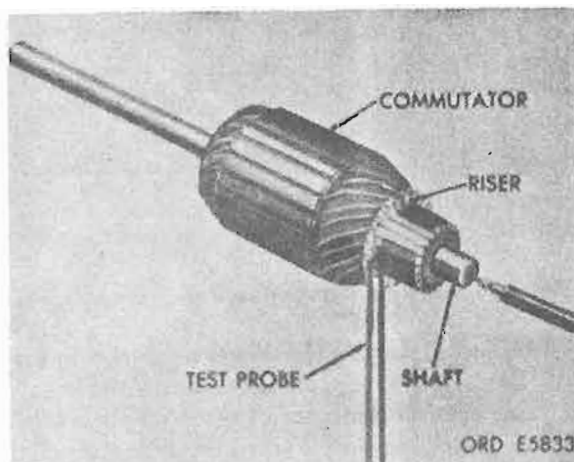

Figure 7-14. Testing armature for grounds.
(1) Inspect armature to make sure all coils are pressed into core slots and staked and soldered securely to commutator risers. Restake and solder as necessary. Inspect armature core for excessive scoring and loose windings. Discard armature if either condition is found.
(2) Check diameter of shaft at the three bearing points and discard if worn beyond the limits shown in table 7-2.
(3) Test armature for grounds with continuity tester as shown in figure 7-14. Touch probe to any commutator riser segment. Do not touch bearing surface or commutator surface where brushes ride as arcing will mar the smooth finish. Discard armature if grounded.